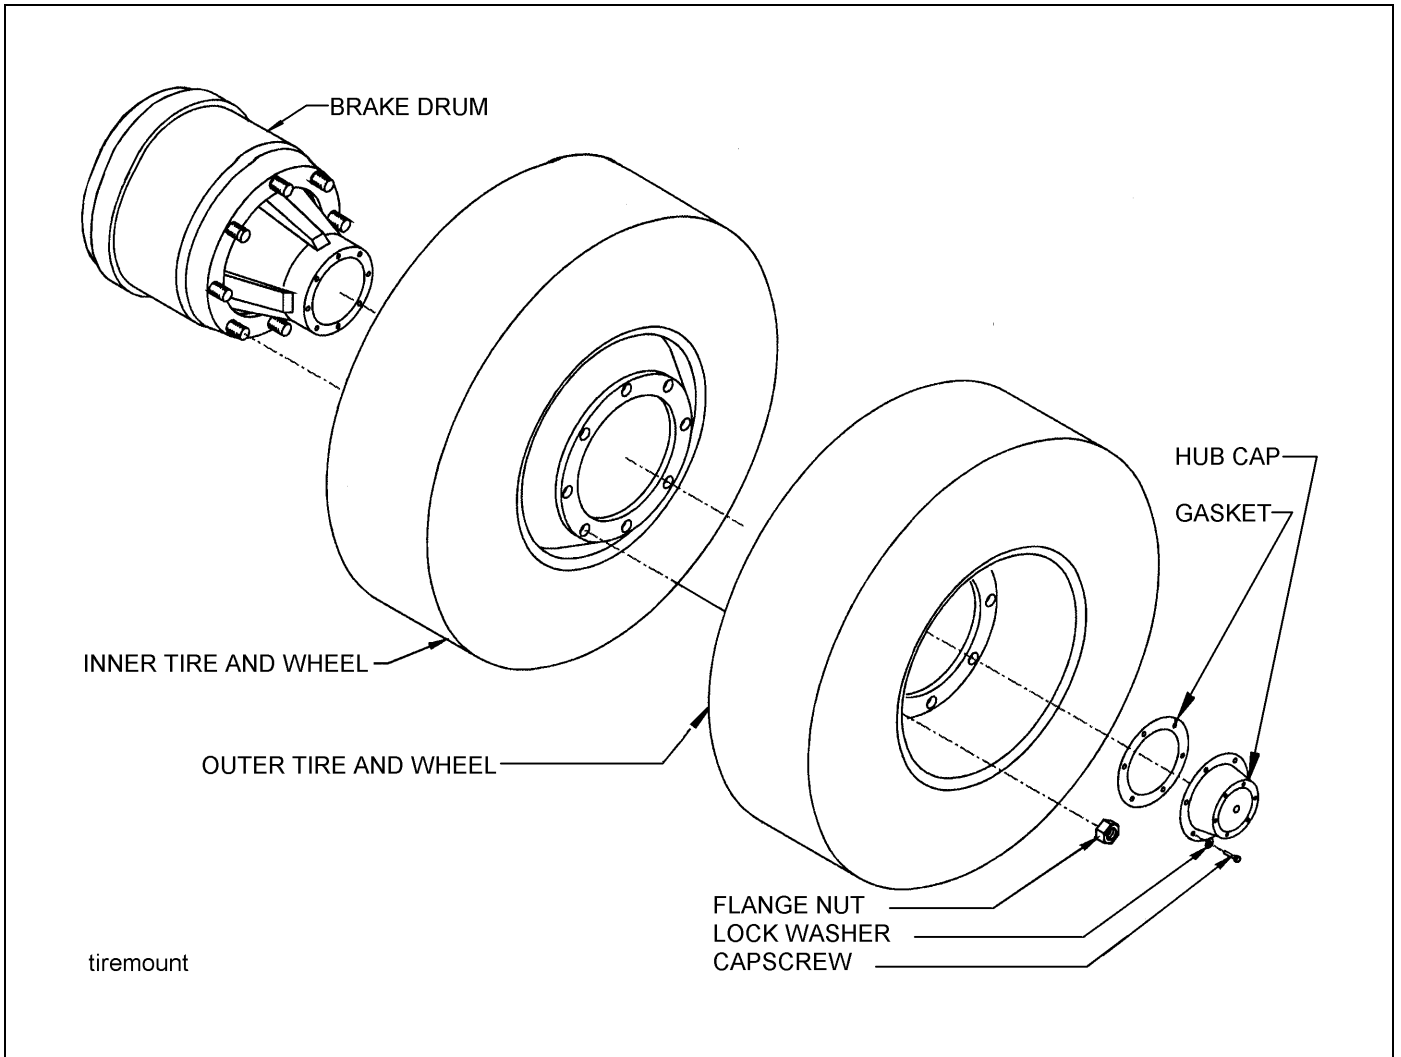

Figure 4-17: Mounting Tires and Wheels
1. Make sure that all mounting surfaces are clean and free of rust, dirt or paint. A wire brush may be used to clean these surfaces **(See Figure 4-17.)**